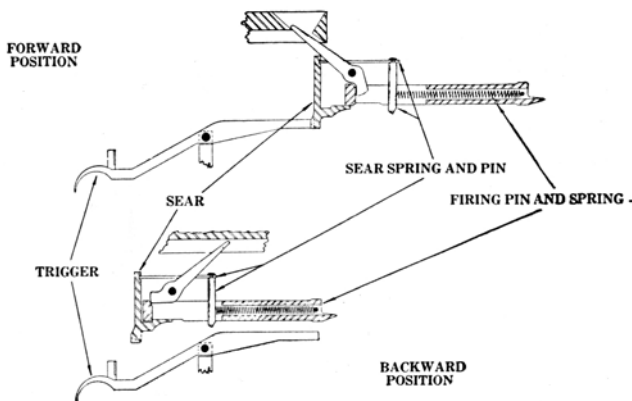

FIGURE 13. Cocking mechanism.
■33. COCKING ACTION (fig. 13).—AS the bolt moves backward, the upper end of the cocking lever is forced forward in the cocking lever recess, bringing the lower end to the rear. The lower end brings with it the firing pin, thus compressing the firing pin spring against the sear spring pin.